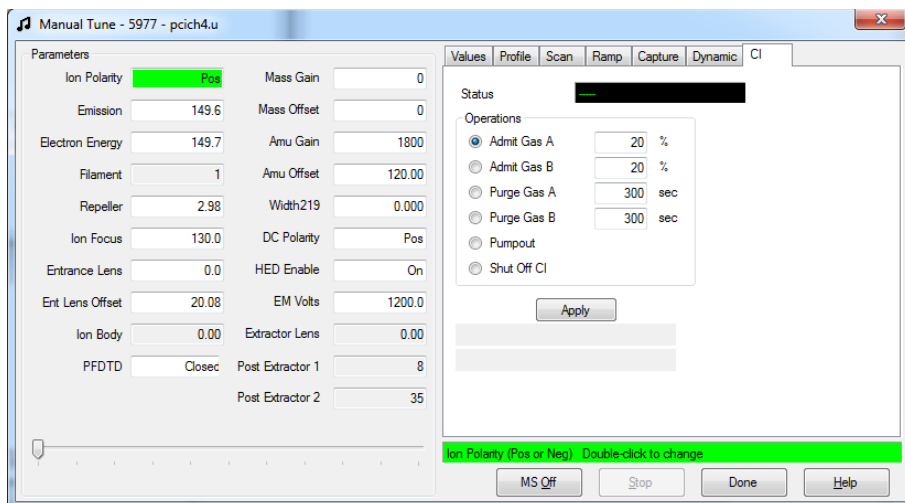

Figure 40 Manual tune CI tab
- 1 In the **Manual Tune** dialog, click the **CI** tab to access the parameter settings for controlling the CI gas flow. (See Figure 40.)